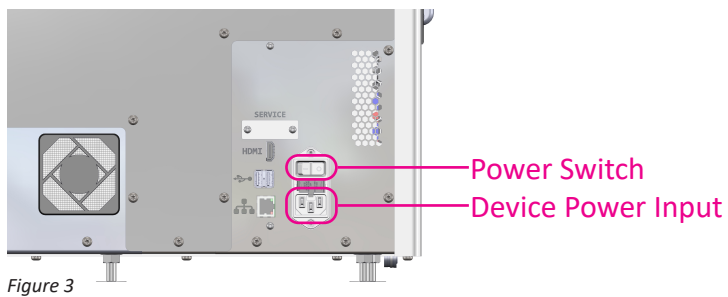

Figure 3
- Connect the AC Power Cord to the device power input at the rear of the device (Figure 3).